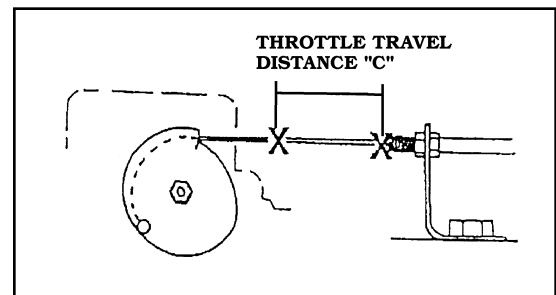

FIGURE 6
- C. MEASURE THE DISTANCE "C" BETWEEN THE TWO MARKS. **FIGURE 6** IF THE DISTANCE IS GREATER THAN 41MM (1-5/8"), GO TO **PAGE 9**; IF IT IS LESS, GO TO **STEP D**.